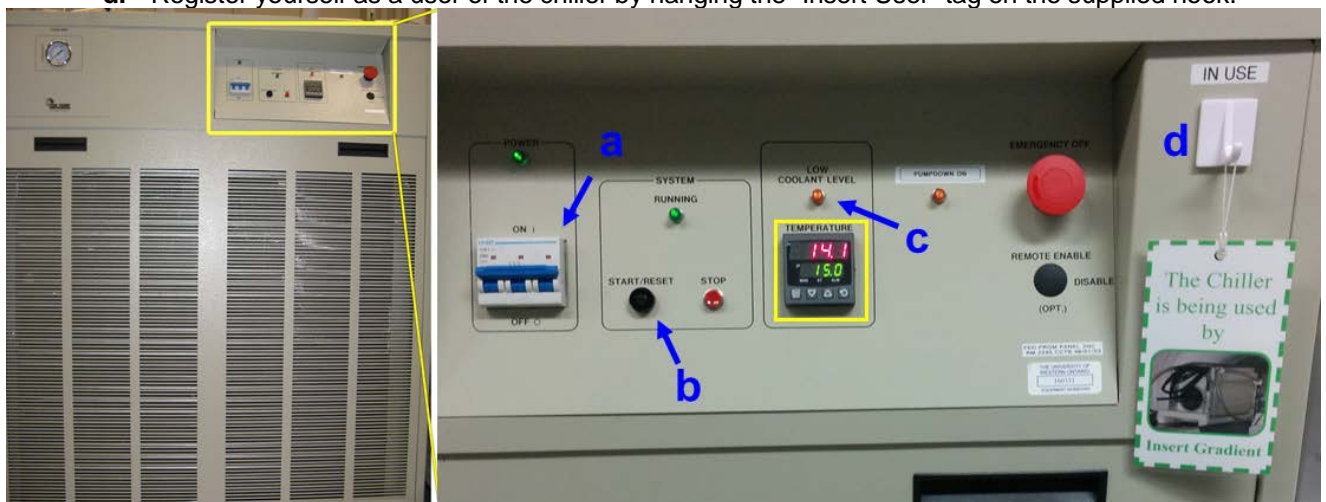

Figure 14. Chiller.
- 23) Turn on the Insert Water Chiller (Fig.14). The set point temperature for the chiller is already set up to 15°C.